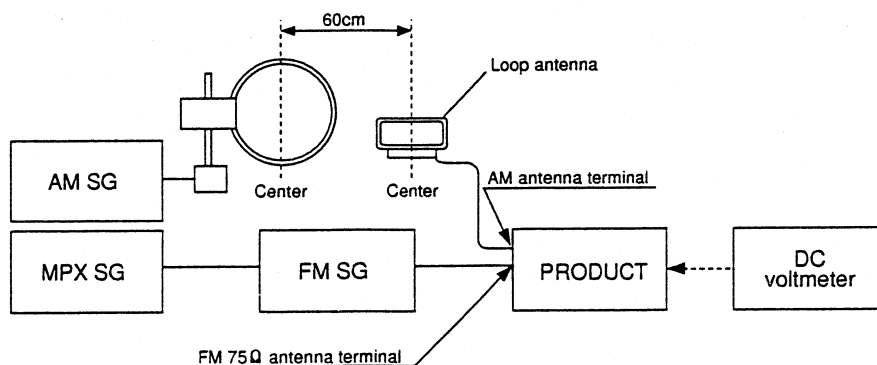

Fig. 1-1 AM and FM Adjustment Wiring Diagram
- Connect the wiring as shown in Fig. 1-1.
- Set the FM/AM selector to AM (MW) BAND.